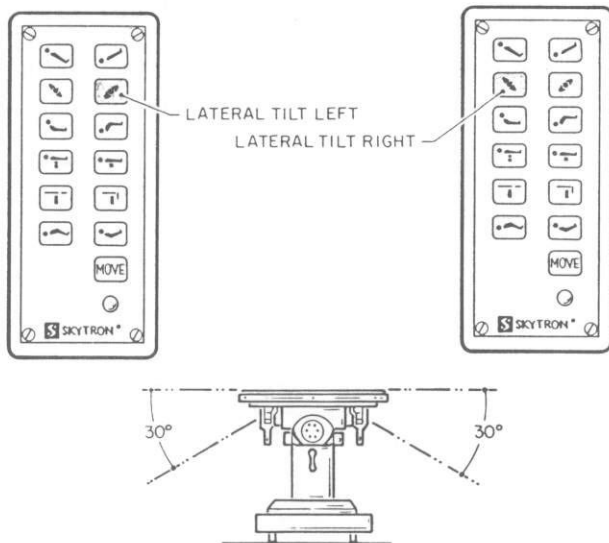

Figure 2-6. Lateral Tilt Positioning
c. Lateral Tilt. To achieve lateral tilt right (as viewed from head end of table), push the TILT-RIGHT button (figure 2-6.). Tilt of up to 30° may be obtained. To achieve lateral tilt left, push the TILT-LEFT button. Tilt of up to 30° may be obtained.